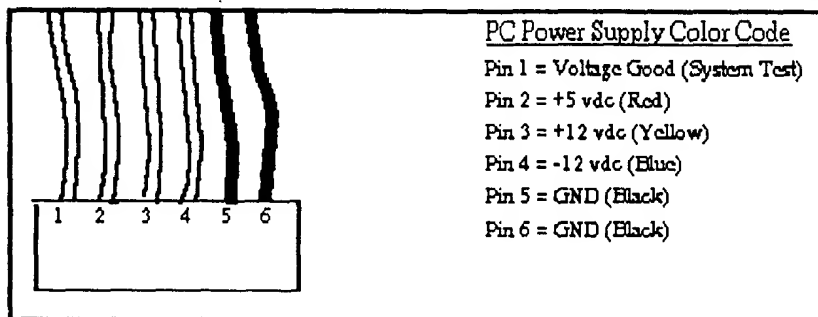

Fig. 4
13. Determine which of the 6-pin connectors from the PC Power Supply contains the following potentials: +12, -12, +5 and Ground. Cut off the original connector and replace with either the male or female 4-pin amphenol connector. (Fig. 4&5)